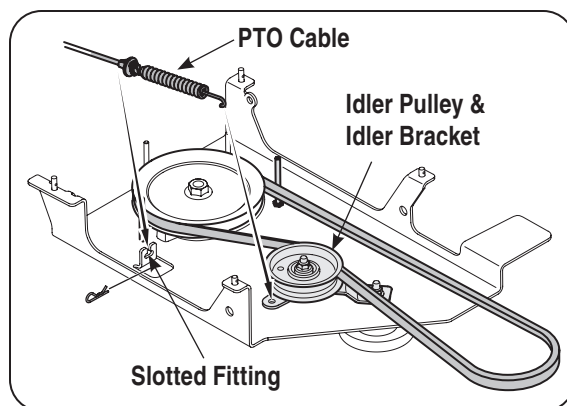

Figure 4-3
1. Attach the PTO cable to the idler bracket, then fit the cable into the slotted fitting as seen in Figure 4-3.